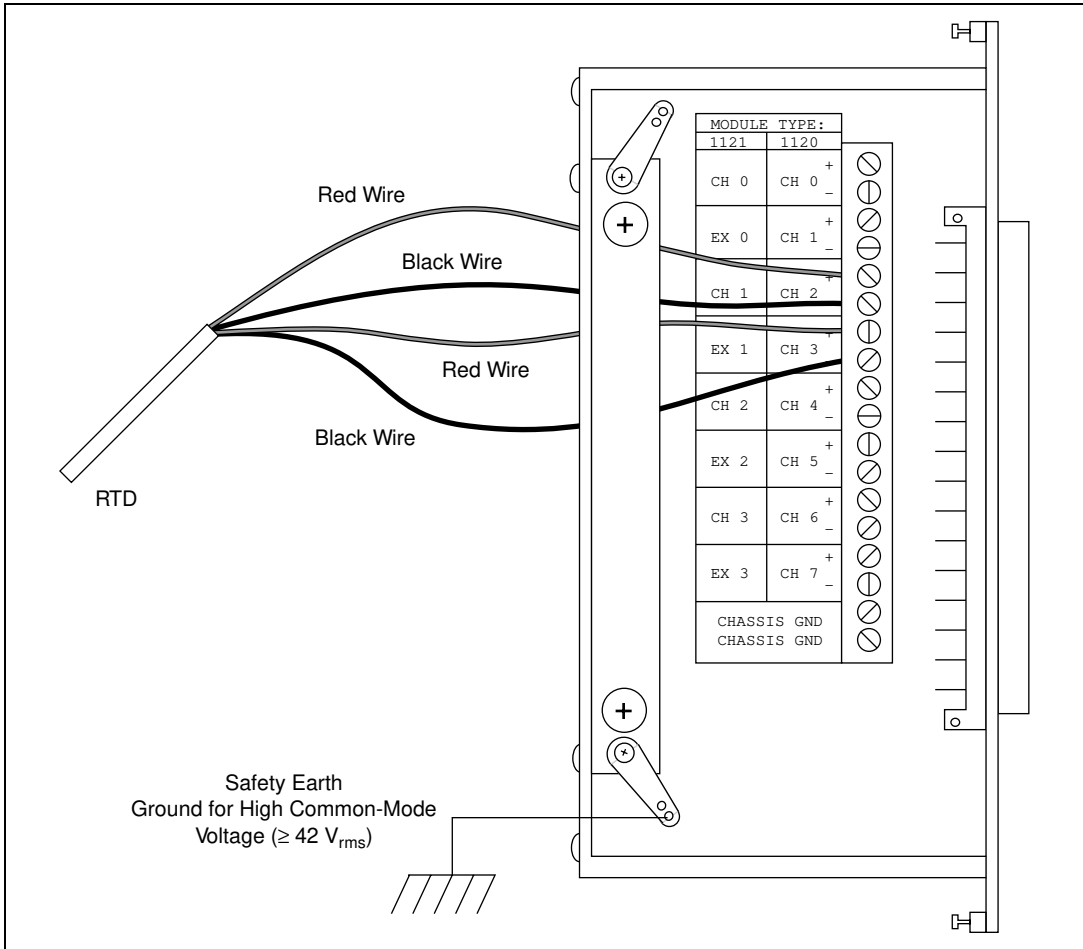

Figure 4-11. Connecting a Four-Wire Platinum RTD to Channel 1 of the SCXI-1320
3. Connect the RTD to channel 1 of the SCXI-1320 terminal block, as shown in Figure 4-11.
Warning Before you connect the RTD to the SCXI-1121, verify that the common-mode voltage is within limits. Refer to Appendix A, *Specifications*, in the *SCXI-1121 User Manual*. Common-mode voltage that is not within the specified limits can damage the SCXI system and is potentially dangerous. National Instruments is not liable for damages or injuries from improper configuration. If you have a common-mode voltage greater than or equal to 42 V_{rms}, ground the terminal block to safety earth ground as shown in Figure 4-11.